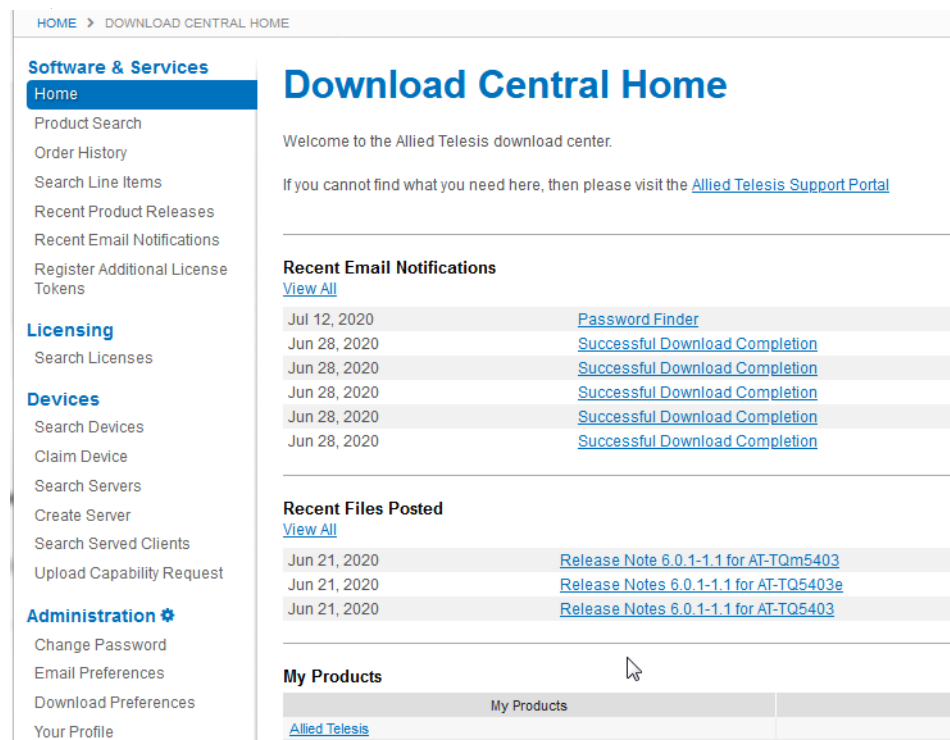

Figure 19. Download Central Home Page
The Download Central Home page is displayed. See Figure 19.
5. Select **Product Search** from the menu on the left bar as shown in Figure 19 on page 46.